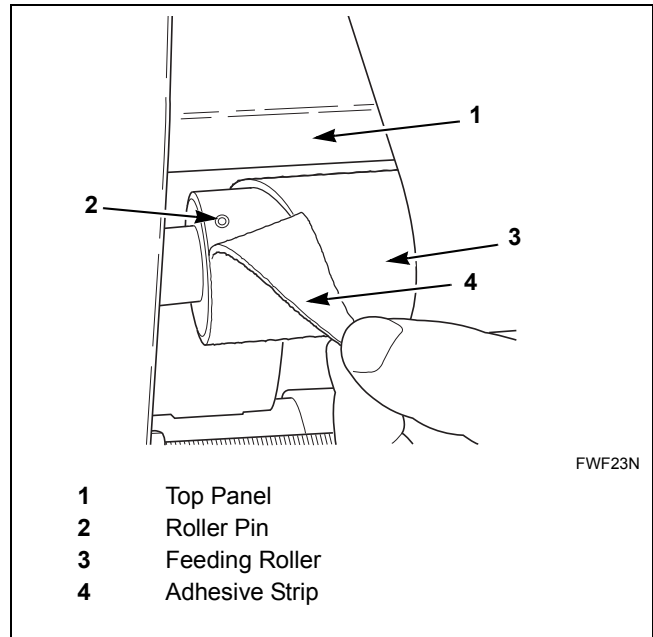

Figure 24
3. Peel back adhesive strip from left side of feeding roller to expose roller pin. Refer to *Figure 24*.